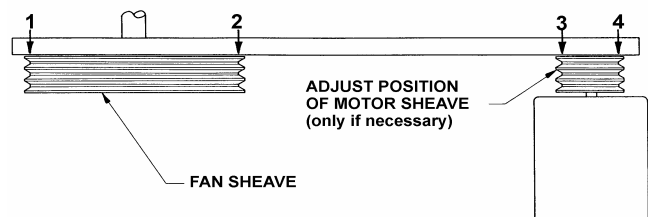

Figure 25 - Sheave Alignment Check
9. As a final check, lay a straight edge from sheave to sheave. There should be four point contact. (See Figure 25.) Adjust the position of the motor sheave as necessary.